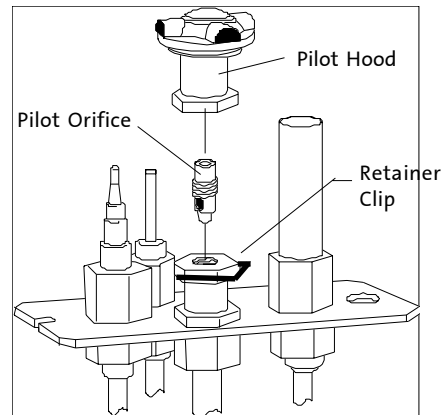

Figure 4. Pilot assembly and orifice removal.
7. **FROM WITHIN THE FIREBOX**, pull the Retainer Clip back to release the Pilot Hood from the Pilot Base. See Fig. 4. Using a 4mm hex key, remove the pilot orifice (counterclockwise). Replace with the appropriate orifice: #51 for natural gas, #30 for propane. Securely tighten the orifice into the base of the pilot assembly to prevent any potential for leakage. Replace pilot hood onto the pilot assembly.
10. **Replace the regulator:** Using a Torx 20 screwdriver, remove the three pressure regulator mounting screws, pressure regulator tower and gasket. **BE SURE TO REMOVE THE BLACK RUBBER GASKET FROM THE VALVE.** See Fig. 4.